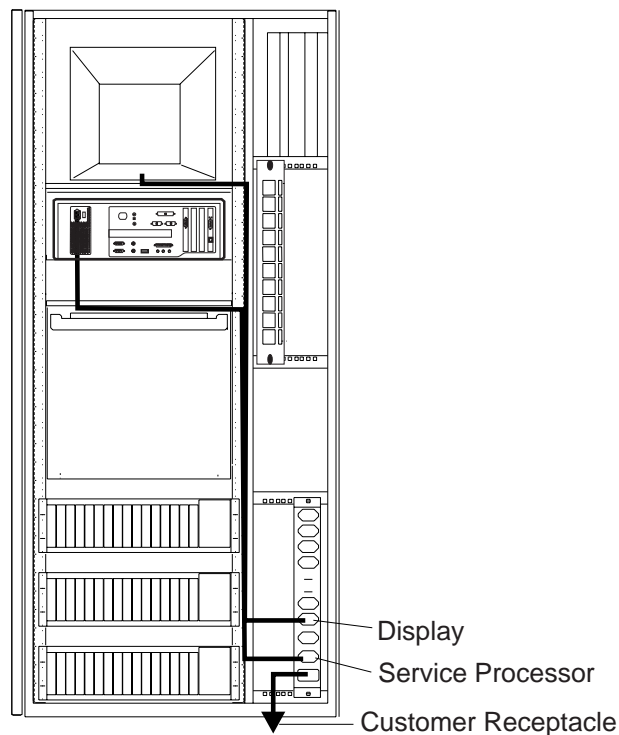

Figure 1-12. Power Cords Connection
19. ____ Route and connect the power cords (PN 58G5783) from the display and service processor unit to the ac outlet distribution box as shown in Figure 1-12. Secure these cables using tie clamps along the frame, then go to step 21.